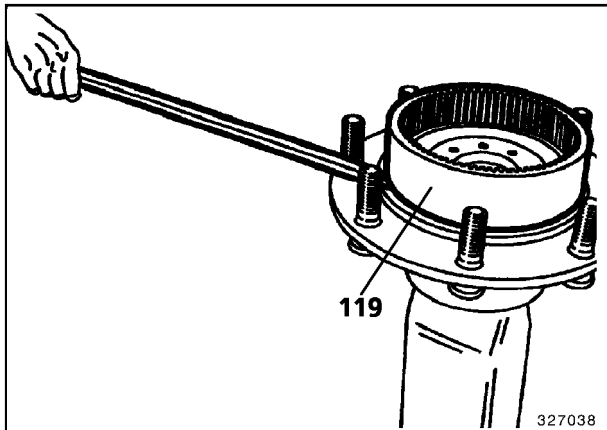

Fig. 2
- Slacken hex screws (120), loosen ring gear (119) and carrier (118) by mounting lever, see Fig. 2, and lift off.